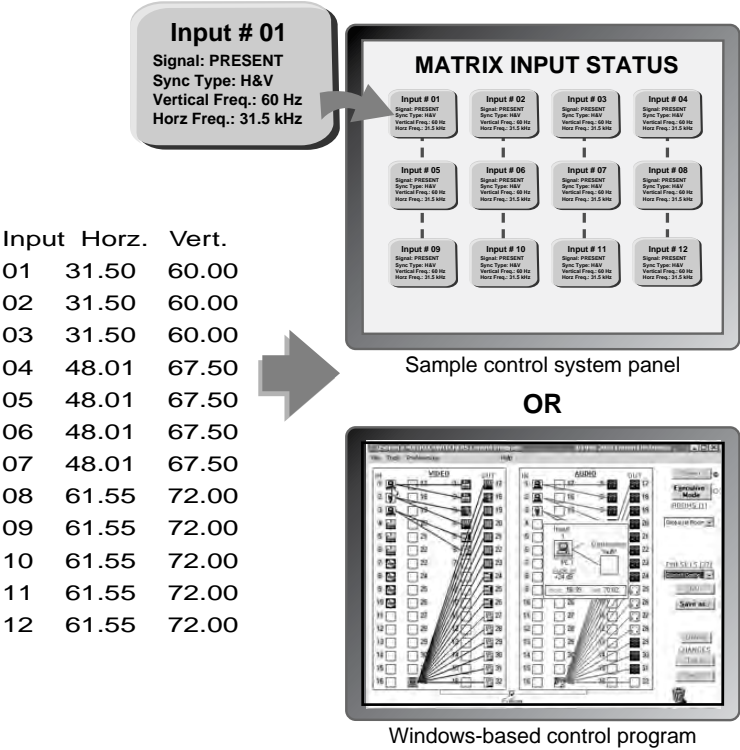

Figure 3. DSVP Data Display
Digital Sync Validation Processing (DSVP) (CrossPoint) — In critical environments or unmanned, remote locations, it may be vital to know that sources are active and switching. The Extron DSVP confirms that input sources are active by scanning all sync inputs for active signals. DSVP provides instantaneous frequency feedback for composite sync or separate horizontal and vertical sync signals via the serial ports or Ethernet port. The frequency information can be displayed on any control system or in a Windows®-based control program on a local-area network (LAN) or Internet (IP) connection (see figure 3).